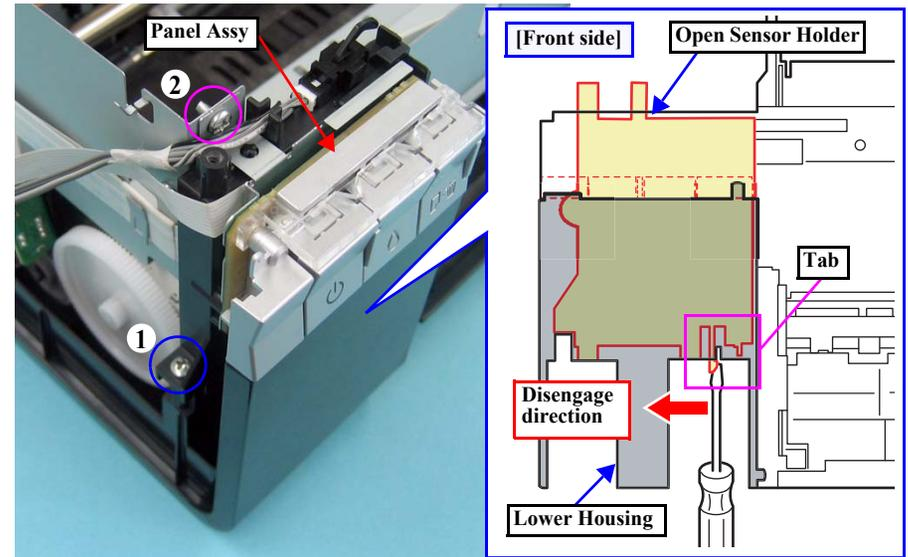
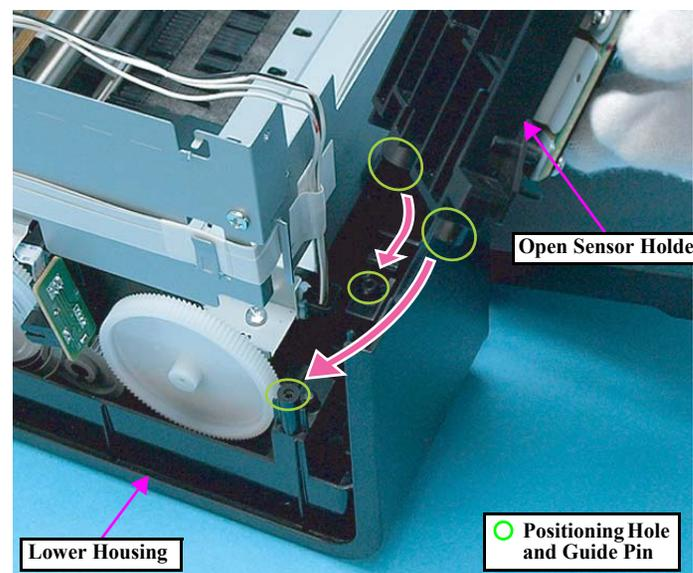

Figure 4-116. Removing the Panel Assy (2)
Figure 4-119. Installing the Panel Assy (2)
When removing the screw (2) shown in Fig.4-116, be careful not to damage the Cover Open Sensor Cable and CDR Sensor Cable.
- Tighten the screws in the order given in Fig.4-116.
- As shown in Fig.4-116 (p.99) and Fig.4-119, match the positioning holes of the Open Sensor Holder with the guide pins of the Lower Housing, and secure the Open Sensor Holder with the tab.